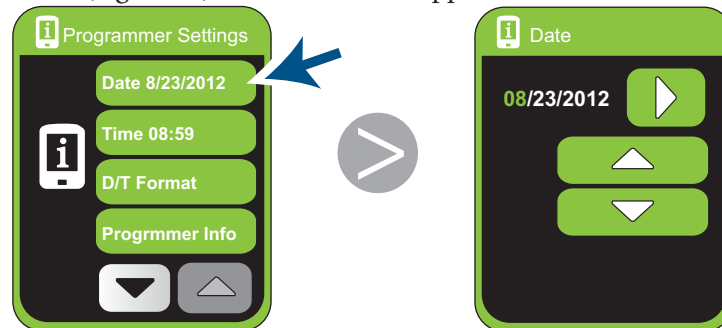

Figure 68. Displaying the Date screen
2. Tap **Date ###** (Figure 68). The Date screen appears.